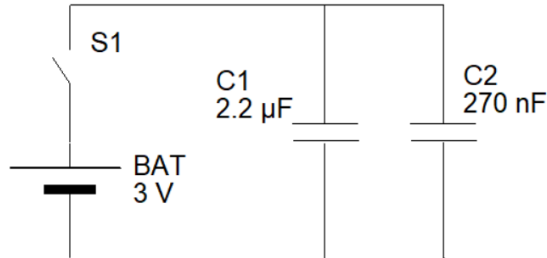

Figure 5: Circuit 4
a) Find the total capacitance of the circuit shown in Figure 5 below. Show all your working.